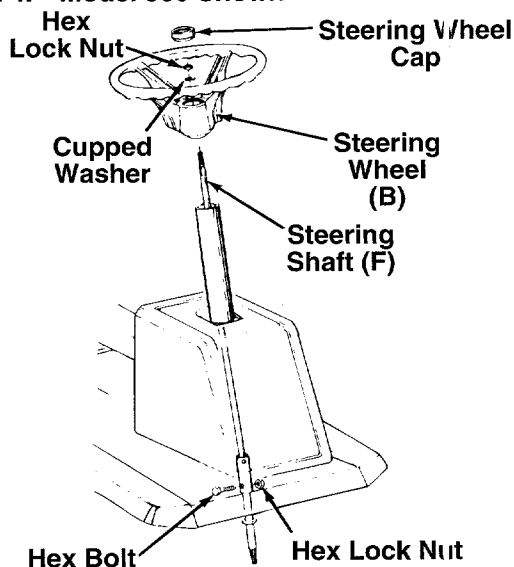

FIGURE 5.—Model 560 Shown
- All Models:** Secure the steering shaft with **hex bolt** and **hex lock nut**. See figure 5.
9. Place **steering wheel (B)** in position desired. Make certain the steering wheel is seated over the end of the steering shaft.
10. Place the **cupped washer** with the cupped side down over the **steering shaft**. Secure with 5/16" **hex lock nut**. Place the **steering wheel cap** over the center of the **steering wheel** and seat it with your hand. See figure 5.